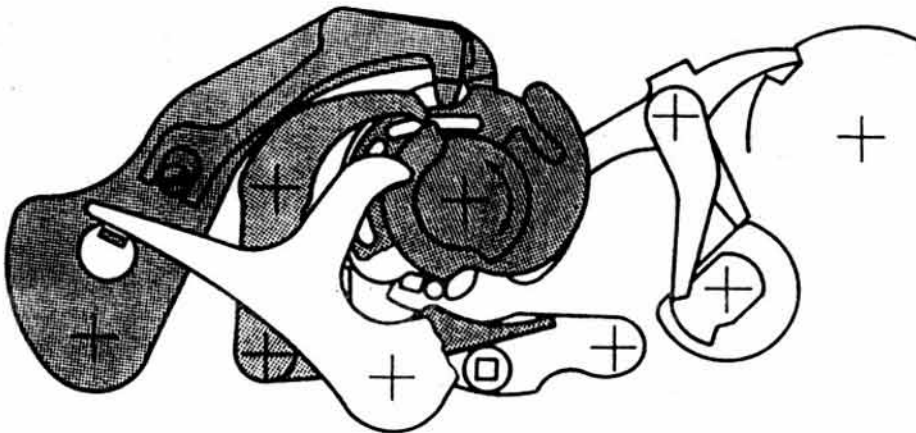

Figure 1-4. Controls in 1-Second Position, Shutter Wound.
- (5) When the shutter is fully wound (fig. 1-4), one of the lower ends of the spring-loaded double-stop lever engages a notch on the under-side of the driveshaft gear. This prevents the winding mechanism from being overdriven.
- (2) *Shutter set for 1 to 1/30-second (fig. 1-4).* The speed cam renders the adjusting lever inoperative. The setting cam positions the adjusting guide lever and pivots the slow-speed escapement around its axis. A segment gear is actuated by a catch on the main shutter roller shaft. The slow-speed escapement controls the delay of the second curtain. The slow-speed escapement anchor is deactivated by the disengaging lever at 1/15-second and 1/30-second shutter speeds.